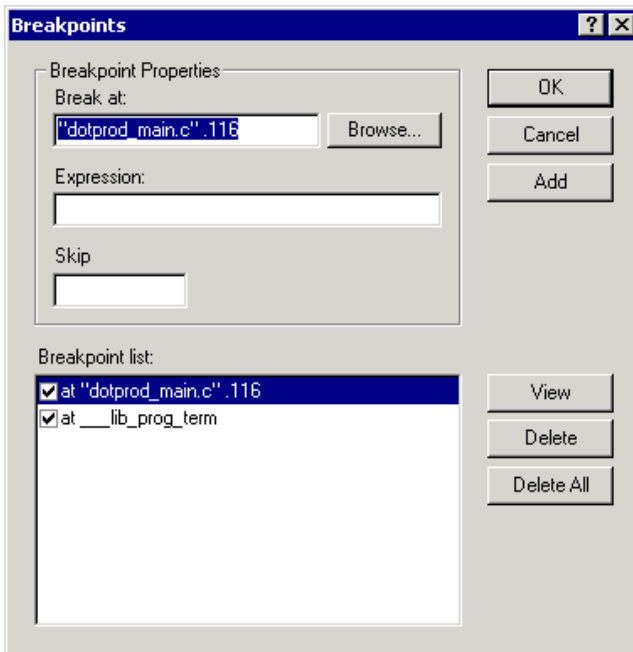

Figure 2-8. Breakpoints Dialog Box
6. From the **Settings** menu, choose **Breakpoints** to view the breakpoints set in your program. VisualDSP++ displays the **Breakpoints** dialog box, shown in Figure 2-8 on page 2-14.